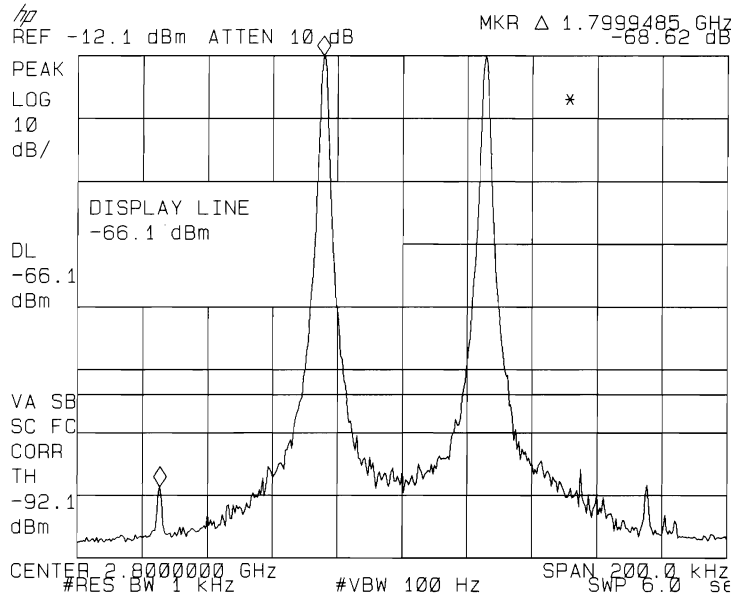

Figure 2-48. Third Order Intermodulation Distortion
44. The third-order intermodulation distortion products should appear 50 kHz below the lower frequency signal and 50 kHz above the higher frequency signal. Their amplitude should be less than the display line. See Figure 2-48.
The third-order intermodulation distortion products should appear 50 kHz below the lower frequency signal and 50 kHz above the higher frequency signal. Their amplitude should be less than the display line. See Figure 2-48.